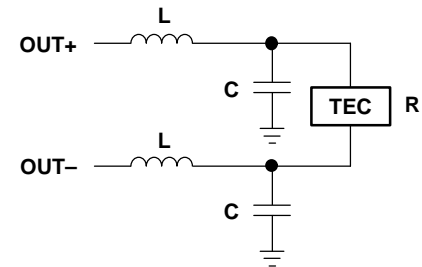

Figure 13. LC Output Filter
The transfer function for a 2nd order low-pass filter (Figures 13 and 14) is shown in equation (2):
The resonant frequency for the filter is typically chosen to be at least one order of magnitude lower than the switching frequency. Equation (2) may then be simplified to give the following magnitude equation (3). These equations assume the use of the filter in Figure 13.